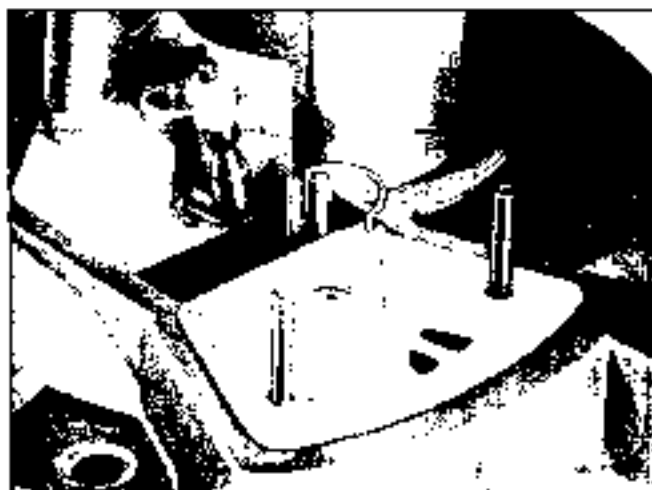

Fig. 4-22 Positioning Distributor Valve
4. Position distributor valve so that short foot of tension spring fits under valve and vertical leg is in slot (Fig. 4-22).